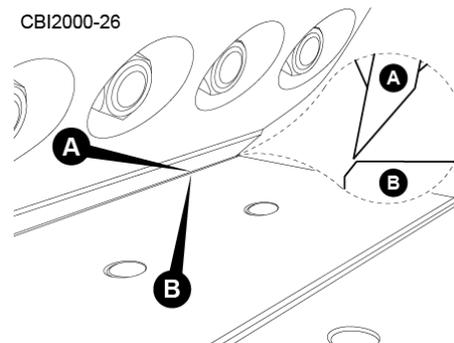

Figure 6.15 - Rotate Rotor
4. Rotate Rotor - Rotate the rotor so that the tip of the knife being checked (Figure 6.15 / A) is normal to the anvil edge (Figure 6.15 / B). The knife must be aligned properly in order to check the clearance.